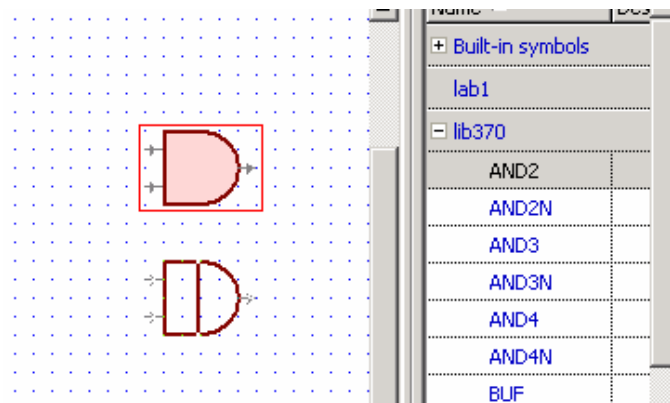

Figure 15
5. Active-HDL uses the standard Windows user-interface to select, move, and copy items in the schematic (i.e. drag, Ctrl-drag for copying multiple parts, Ctrl-z for undo, etc.). Figure 15 is an example of Ctrl-drag.